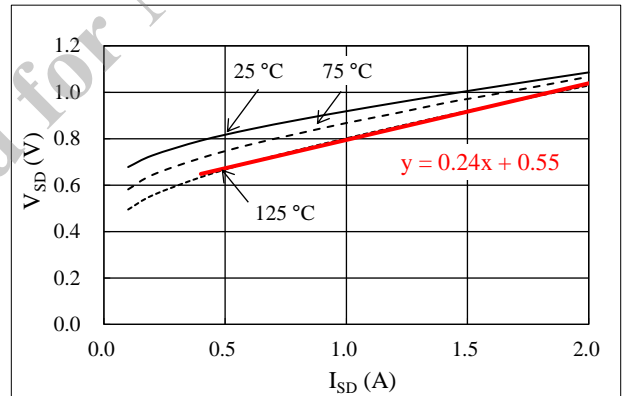

Figure 14-3. Linear Approximate Equation of V_{SD} vs. I_{SD}
- V_{DC} is the main power supply voltage (V), i.e., the VBB pin input voltage, and
Steady-state loss in the body diode of a power MOSFET can be computed by using the V_{SD} vs. I_{SD} curves, listed in Section 15.3.1. As expressed by the curves in Figure 14-3, a linear approximation at a range the I_{SD} is actually used is obtained by: $V_{SD} = \alpha \times I_{SD} + \beta$. The values gained by the above calculation are then applied as parameters in Equation (9), below. Hence, the equation to obtain the body diode steady-state loss, P_{SD} , is: